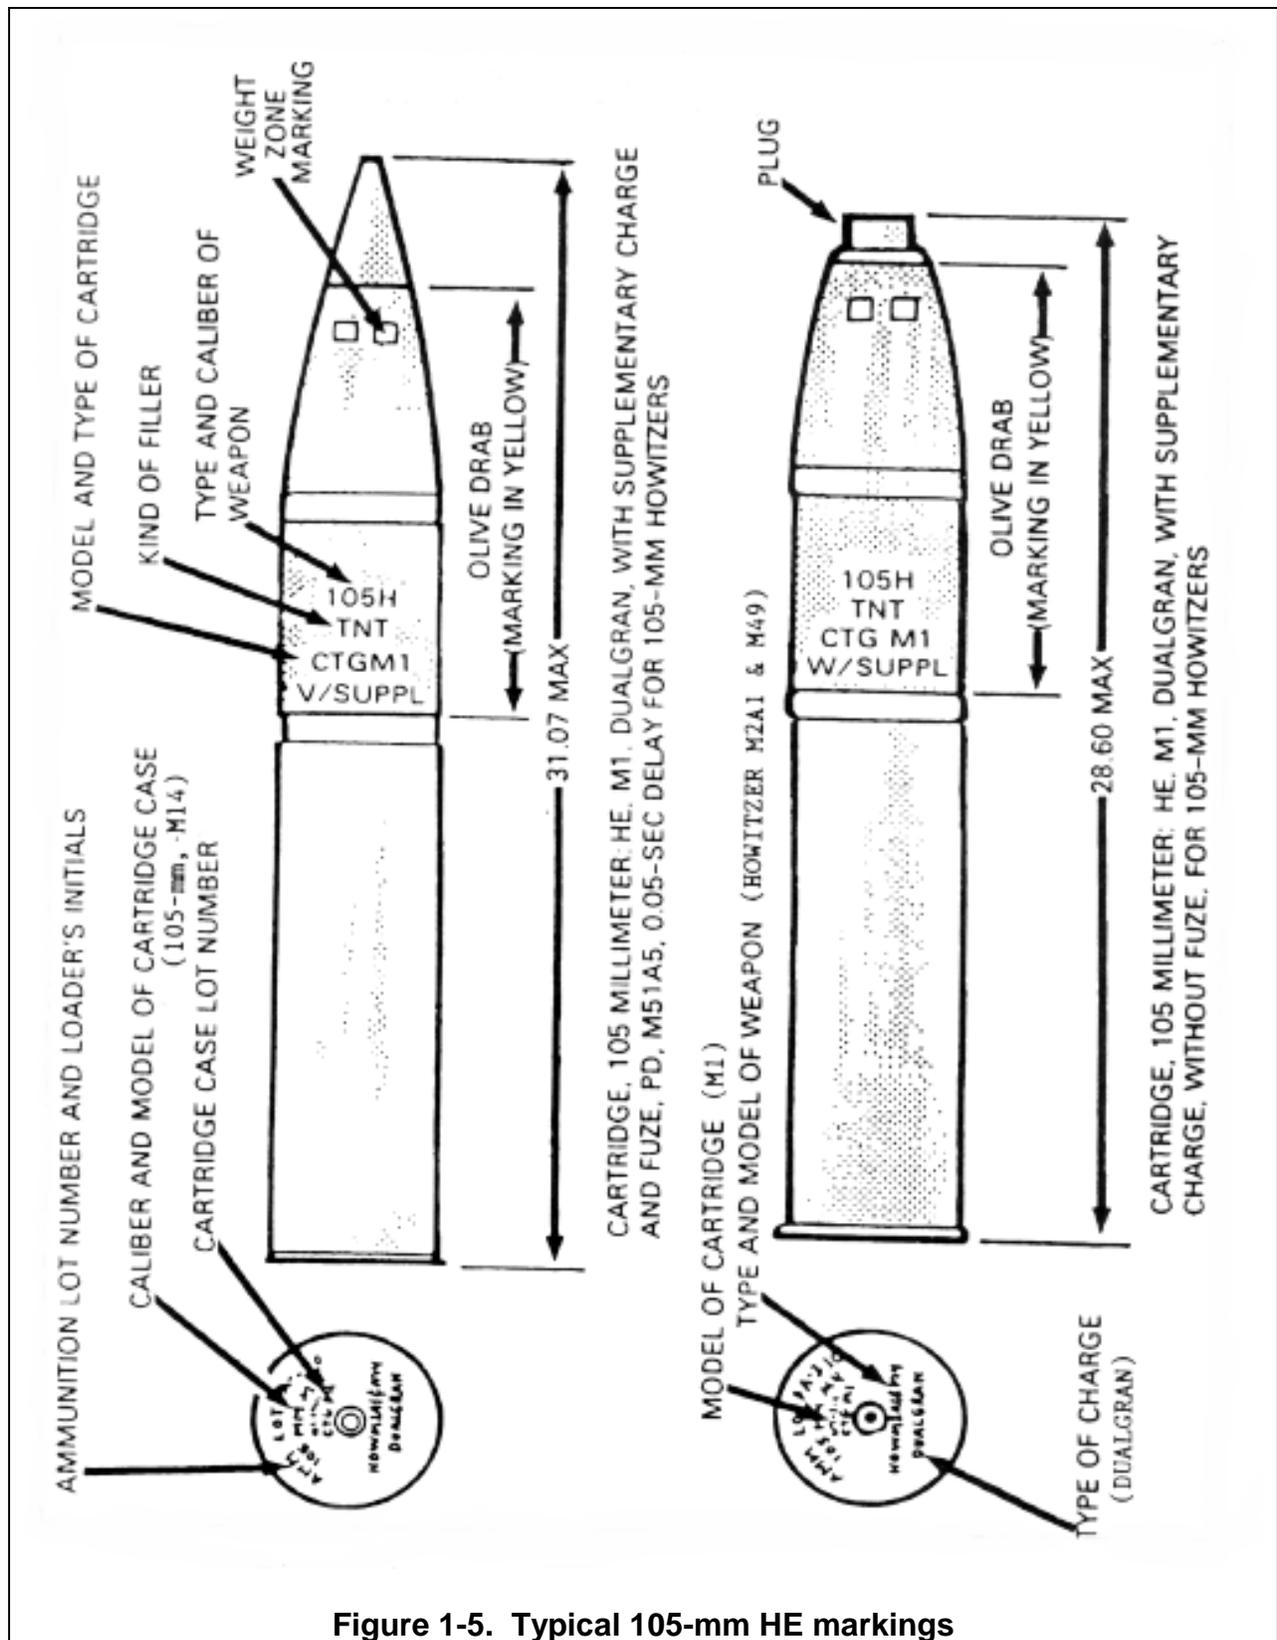

Figure 1-5. Typical 105-mm HE markings
- The number painted below the filler designation, is the lot number of the complete round (Separate loading ammunition, Figure 1-4) or the loaded projectile (semifixed ammunition, Figure 1-5), and is an essential part of the ammunition marking. It is required for all records, including reports on the ammunition condition and functioning, and on any accidents in which the ammunition is involved. All the components in any one lot are manufactured under conditions as identical as possible to ensure common functioning. When semi-fixed ammunition is fired, successive rounds should be of the same lot number (i. e., fuzes of the same lot number, and primers of the same lot number).